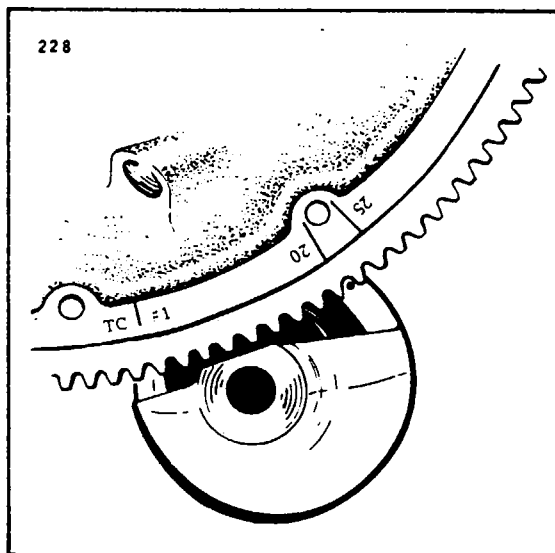

Figure 8-15. Engine Timing Marks
b. Continue turning the crankshaft until the 20° advance timing mark is in alignment with the small hole located on the top face of the starter housing at the two o'clock position. (Refer to Figure 8-15.)